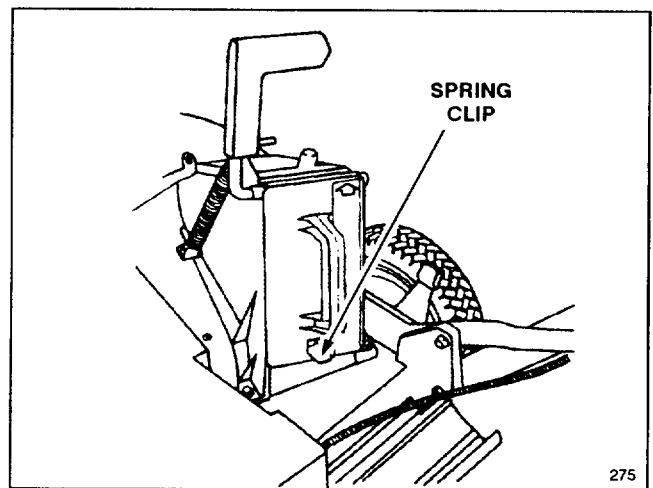

Figure 9
3. Push the plug all the way in until the spring clip on the bottom of the plug clicks into place, locking the plug securely into the discharge tunnel (Fig. 9). Release the discharge door handle to lock the top of the plug.